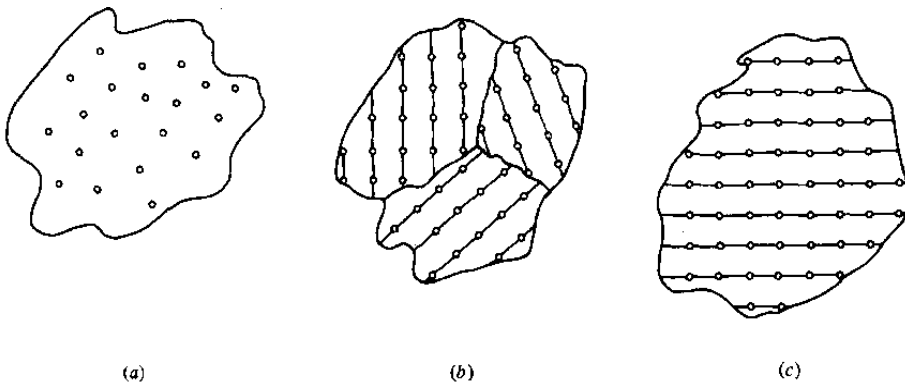

FIGURE 1-1
① Amorphous solid (Fig 1-1 a)
② Polycrystalline solid (Fig 1-1 b)
③ Crystalline solid (Fig 1-1 c)